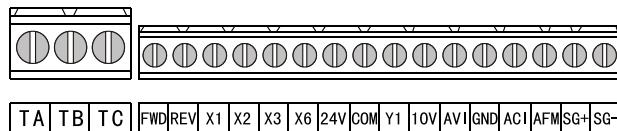

Fig 3-7 Terminals of control circuit
1. The terminal of control circuit shown in Fig 3-7.